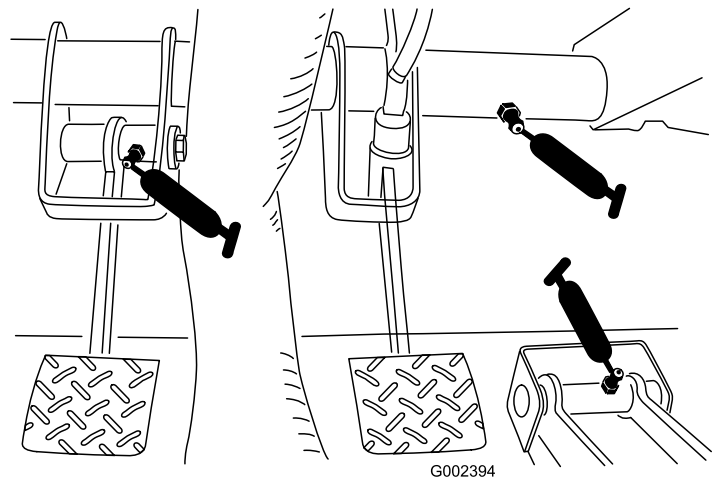

Figura 40
- Embrague (1), acelerador (1), freno (cant. 1) (Figura 40)